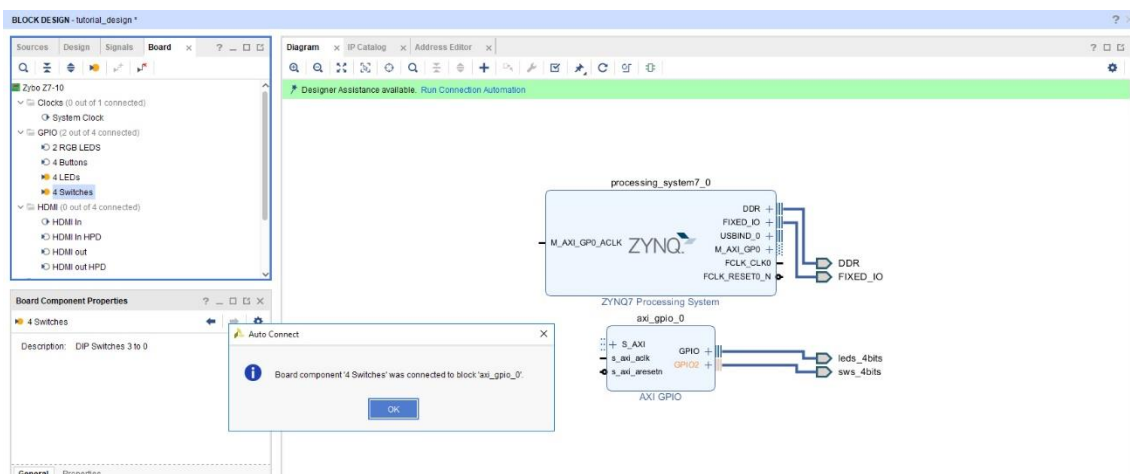

Figure 14
- A new 4-bit input bus is automatically added to the second channel of the same **axi_gpio_0** block to connect the **4 Switches** (Figure 14).